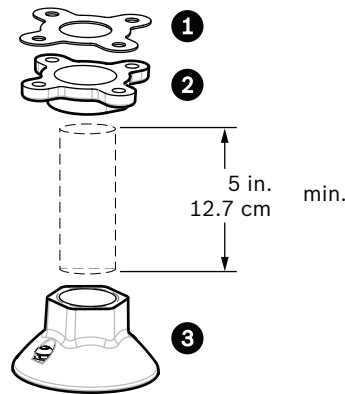

Figure 3.9 Pipe Mount
7. Thread the Pipe Cap onto the down pipe and tighten securely to prevent leaks. See *Figure 3.9, Page 55*.